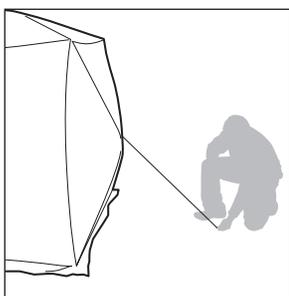

FIGURE 5
6. Your shelter should be standing up completely. You may now proceed by anchoring the shelter to the ice using the provided ice anchors and rope. **SEE FIGURE 5. FF767, FF949 and FF949i** - Screw four (4) anchors through the grommets located in each corner completely. On the windiest side of the shelter, screw in the remaining anchors several feet away from the hubs. Use the provided ropes and tie one end to the hub eyelet on each wall, and the other end to one of the anchors previously screwed in. Use adjustment slides on rope to achieve proper tension. **FF9416** - Screw six (6) anchors through the grommets located in each corner and on the long sides of the shelter completely. On the windiest side of the shelter, screw in the remaining anchors several feet away from the hubs. Use the provided ropes and tie one end to the hub eyelet on each wall, and the other end to one of the anchors previously screwed in. Use adjustment slides on rope to achieve proper tension.